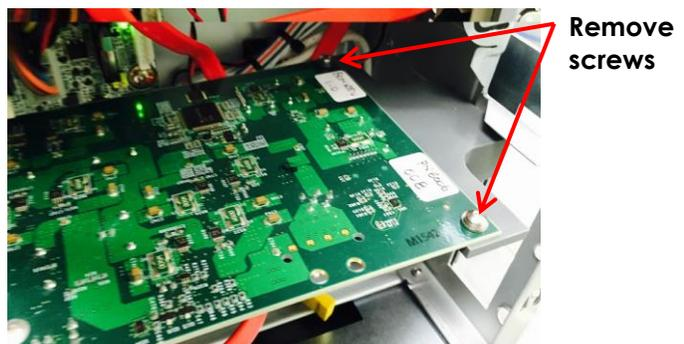

Figure 85: Screws holding BCB
11. For ExactVu 2.5 hardware versions, using the 2.5 mm hex driver, remove the two screws, washers and lock washers securing the right side of the BCB to the computer unit (refer to Figure 85).